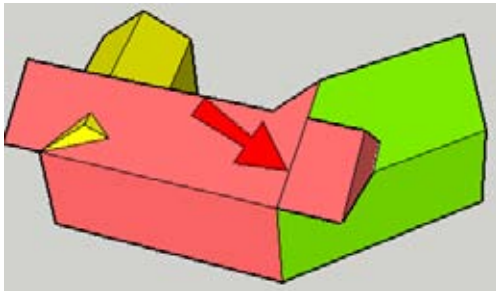

Figure 5-70
8. To finish resolving this corner, orbit around to the back and add the line indicated in Figure 5-70.